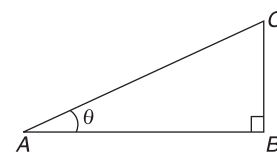

Figure 2.5
i.e. in the triangle of Fig. 2.5, $AC^2 = AB^2 + BC^2$
Problem 7. In Fig. 2.5, if $AB = 5.1$ m and $BC = 6.7$ m, determine the length of the hypotenuse, AC .
In problems 1 to 5, refer to Fig. 2.5.